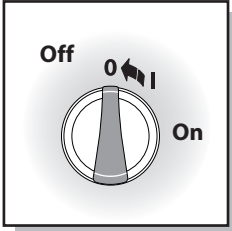

Fig.22
- When your pressure washing session has been completed, turn off the water supply and pull the trigger until water flow stops and IMMEDIATELY turn off the power switch located on the back of the pressure washer. (Fig.22) To prevent damage to the pressure washer's motor and/or pump. Do not allow the power washer to run with no water flowing through it.